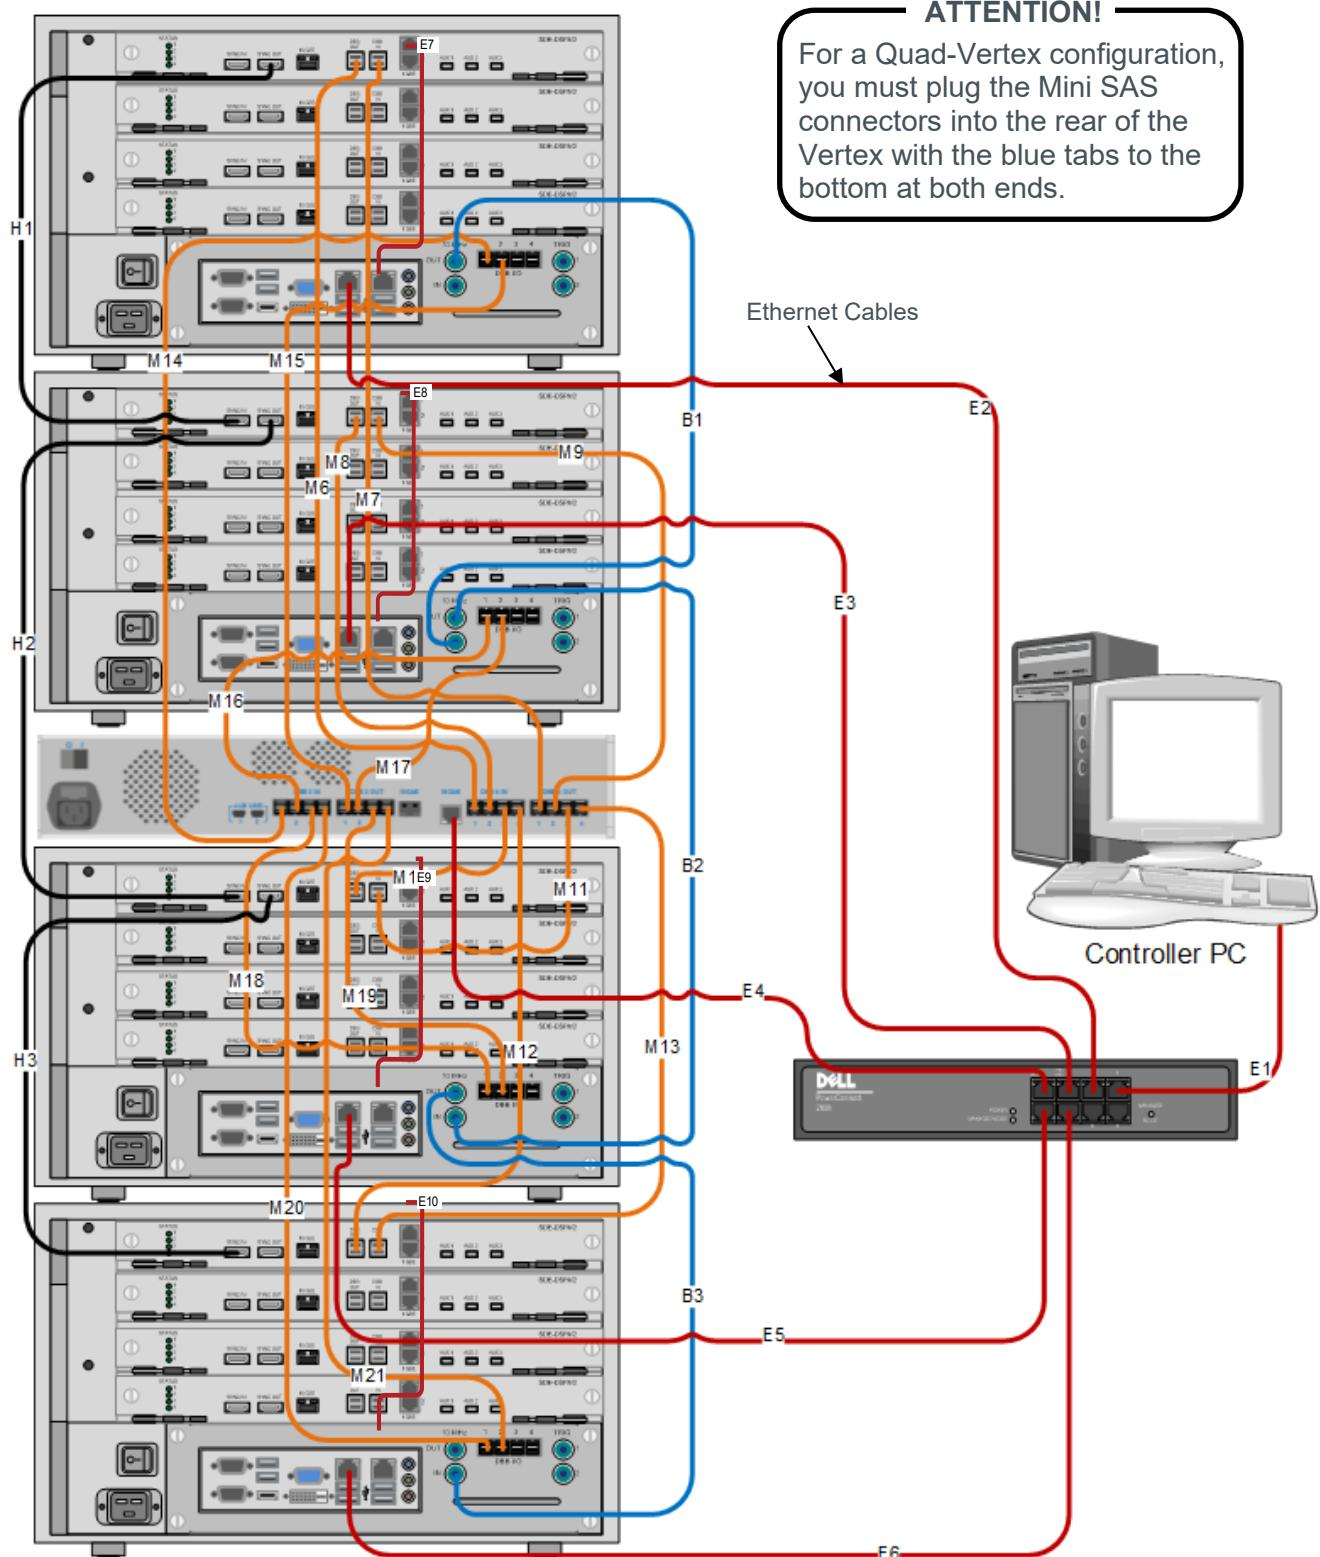

Figure 33. Quad-Vertex configuration - rear panel.
1. On the rear panel, connect a BNC cable from the 10MHz OUT port on Vertex1 to the 10MHz IN port on Vertex2. (See cable B1 in Figure 33.)
2. On the rear panel, connect a BNC cable from the 10MHz OUT port on Vertex2 to the 10MHz IN port on Vertex3. (See cable B2 in Figure 33.)
3. On the rear panel, connect a BNC cable from the 10MHz OUT port on Vertex3 to the 10MHz IN port on Vertex4. (See cable B3 in Figure 33.)
6. On the rear panel, connect a 1.5M mini SAS HD cable from the DSPM1 DBB OUT port on Vertex1 to the DBB4 IN1 port on the Vertex Baseband Synchronizer. (See cable M6 in Figure 33.)
7. On the rear panel, connect a 1.5 mini SAS HD cable from the DBB4 OUT1 port on the Vertex Baseband Synchronizer to the DSPM1 DBB IN port on Vertex1. (See cable M7 in Figure 33.)
8. On the rear panel, connect a 1M mini SAS HD cable from the DSPM1 DBB OUT port on Vertex2 to the DBB4 IN2 port on the Vertex Baseband Synchronizer. (See cable M8 in Figure 33.)
9. On the rear panel, connect a 1M mini SAS HD cable from the DBB4 OUT2 port on the Vertex Baseband Synchronizer to the DSPM1 DBB IN port on Vertex2. (See cable M9 in Figure 33.)
10. On the rear panel, connect a 1M mini SAS HD cable from the DSPM1 DBB OUT port on Vertex3 to the DBB4 IN3 port on the Vertex Baseband Synchronizer. (See cable M10 in Figure 33.)
11. On the rear panel, connect a 1M mini SAS HD cable from the DBB4 OUT3 port on the Vertex Baseband Synchronizer to the DSPM1 DBB IN port on Vertex3. (See cable M11 in Figure 33.)
12. On the rear panel, connect a 1.5M mini SAS HD cable from the DSPM1 DBB OUT port on Vertex4 to the DBB4 IN4 port on the Vertex Baseband Synchronizer. (See cable M12 in Figure 33.)
13. On the rear panel, connect a 1.5M mini SAS HD cable from the DBB4 OUT4 port on the Vertex Baseband Synchronizer to the DSPM1 DBB IN port on Vertex4. (See cable M13 in Figure 33.)
14. On the rear panel, connect a 1.5M mini SAS HD cable from the DBB I/O P1 port on Vertex1 to the DBB3 IN1 port on the Vertex Baseband Synchronizer. (See cable M14 in Figure 33.)
15. On the rear panel, connect a 1.5M mini SAS HD cable from the DBB3 OUT1 port on the Vertex Baseband Synchronizer to the DBB I/O P2 port on Vertex1. (See cable M15 in Figure 33.)
16. On the rear panel, connect a 1M mini SAS HD cable from the DBB I/O P1 port on Vertex2 to the DBB3 IN2 port on the Vertex Baseband Synchronizer. (See cable M16 in Figure 33.)
17. On the rear panel, connect a 1M mini SAS HD cable from the DBB3 OUT2 port on the Vertex Baseband Synchronizer to the DBB I/O P2 port on Vertex2. (See cable M17 in Figure 33.)
18. On the rear panel, connect a 1M mini SAS HD cable from the DBB I/O P1 port on Vertex3 to the DBB3 IN3 port on the Vertex Baseband Synchronizer. (See cable M18 in Figure 33.)
19. On the rear panel, connect a 1M mini SAS HD cable from the DBB3 OUT3 port on the Vertex Baseband Synchronizer to the DBB I/O P2 port on Vertex3. (See cable M19 in Figure 33.)
20. On the rear panel, connect a 1.5M mini SAS HD cable from the DBB I/O P1 port on Vertex4 to the DBB3 IN4 port on the Vertex Baseband Synchronizer. (See cable M20 in Figure 33.)
21. On the rear panel, connect a 1.5M mini SAS HD cable from the DBB3 OUT4 port on the Vertex Baseband Synchronizer to the DBB I/O P2 port on Vertex4. (See cable M21 in Figure 33.)
22. On the rear panel, connect an HDMI cable from the DSPM1 SYNC OUT port on Vertex1 to the DSPM1 SYNC IN port on Vertex2. (See cable H1 in Figure 33.)
23. On the rear panel, connect an HDMI cable from the DSPM1 SYNC OUT port on Vertex2 to the DSPM1 SYNC IN port on Vertex3. (See cable H2 in Figure 33.)
24. On the rear panel, connect an HDMI cable from the DSPM1 SYNC OUT port on Vertex3 to the DSPM1 SYNC IN port on Vertex4. (See cable H3 in Figure 33.)
25. Connect an Ethernet cable from the Ethernet switch to the Ethernet port on the Controller laptop. (See cable E1 in Figure 33.)
26. Connect an Ethernet cable from the Ethernet switch to the User Ethernet port on the rear panel of Vertex1. (See cable E2 in Figure 33.)
27. Connect an Ethernet cable from the Ethernet switch to the User Ethernet port on the rear panel of Vertex2. (See cable E3 in Figure 33.)
28. Connect an Ethernet cable from the Ethernet switch to the 10 GbE Ethernet port on the rear panel of the Vertex Baseband Synchronizer. (See cable E4 in Figure 33.)
29. Connect an Ethernet cable from the Ethernet switch to the User Ethernet port on the rear panel of Vertex3. (See cable E5 in Figure 33.)
30. Connect an Ethernet cable from the Ethernet switch to the User Ethernet port on the rear panel of Vertex4. (See cable E6 in Figure 33.)
31. Connect an Ethernet cable from the Embedded PC Ethernet port on the right of Vertex 1 to the GBE2 port 1 of DSPM at SLOT1 on the rear panel of Vertex1. (See cable E7 in Figure 33.)
32. Connect an Ethernet cable from the Embedded PC Ethernet port on the right of Vertex 2 to the GBE2 port 1 of DSPM at SLOT1 on the rear panel of Vertex2. (See cable E8 in Figure 33.)